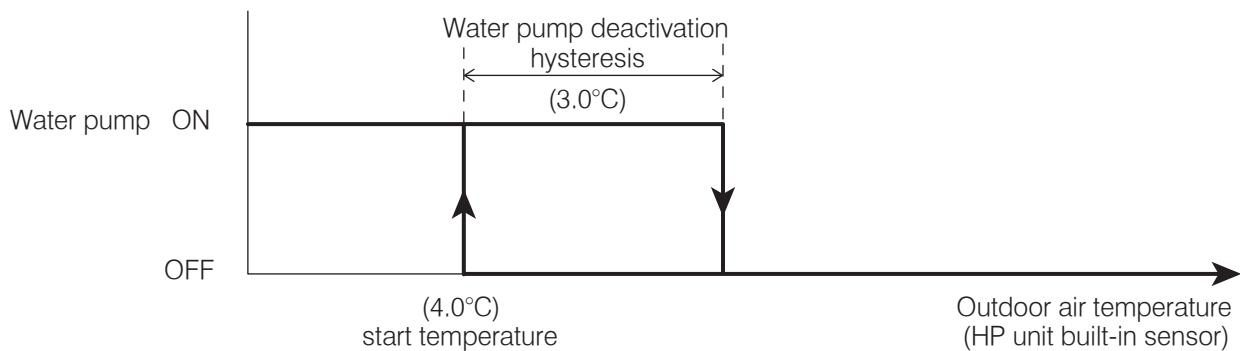

Figure 8-17: Frost protection (outdoor air temperature) - water pump
- Outdoor air temperature - refer to Section 8.4.1 and Figure 8-17.